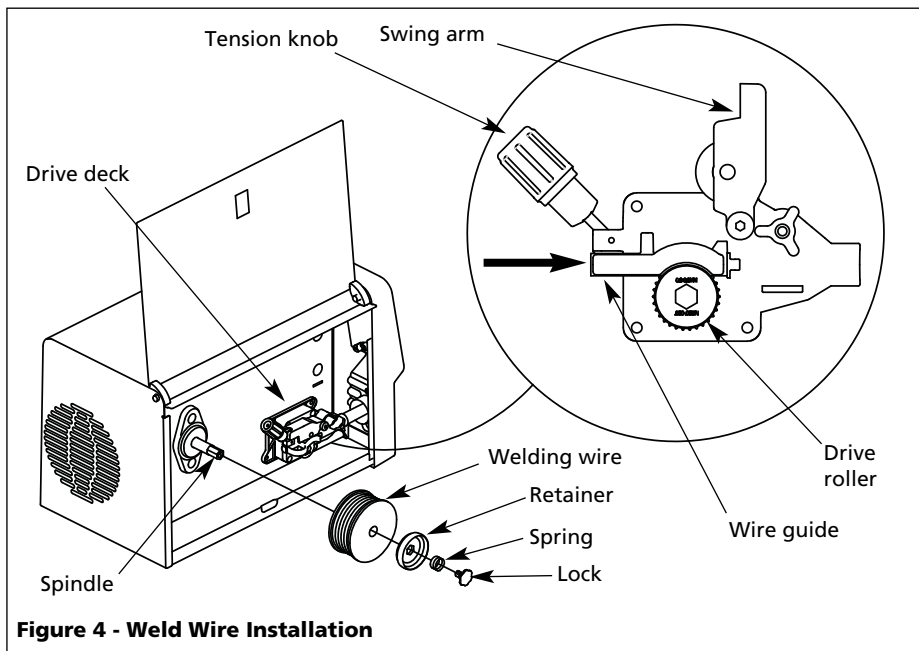

Figure 4 - Weld Wire Installation
- a. Diameter of welding wire matches groove in drive roller on wire feed mechanism (See Fig. 4).